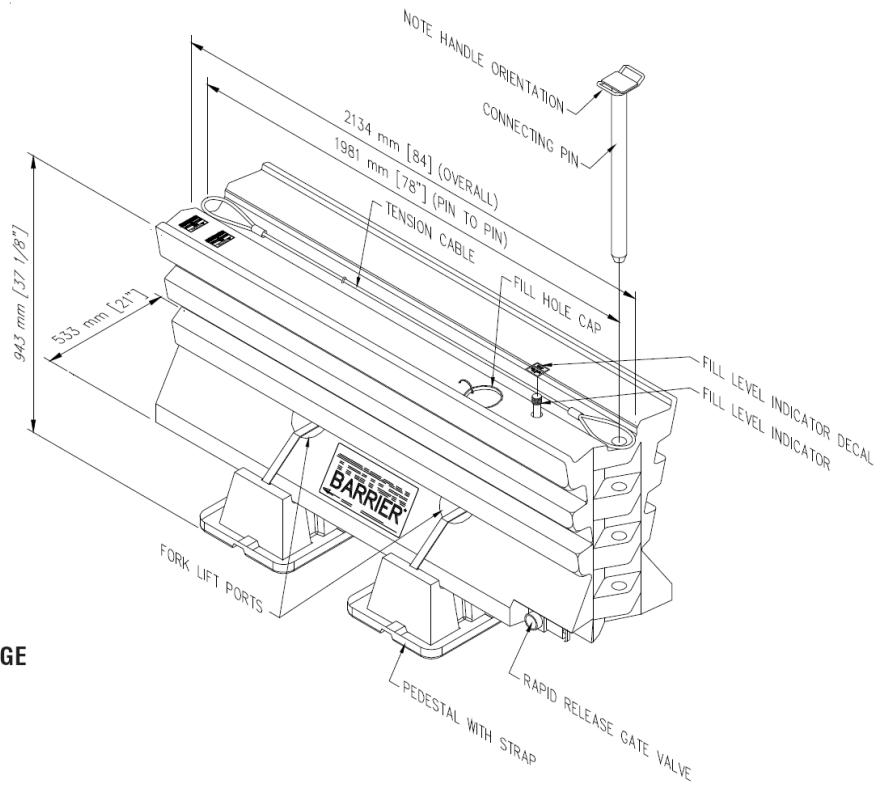

Figure 1
- Bring the remaining four upright Triton segments together and insert a connecting Pin through the Top Cables and into the overlapping end knuckles at each joint. Push the Pin in until it is flush with the top of the sections. Take care to orient the handle on the Pin so that the handle is perpendicular to the length of the barrier. (See Figure 1 on Page 9).
- Remove the fill level indicator decal (See Figure 1 on Page 9).